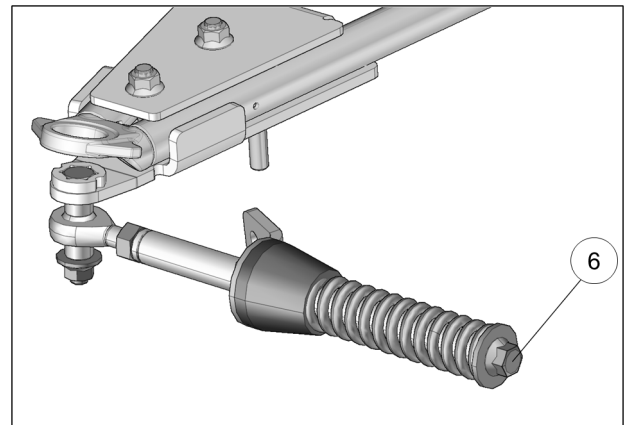

Fig. 22
10. Verify that spring assembly bolt (**6**) is tightened to the recommended torque specification: 75 N•m [55 lb•ft]. Refer to Fig. 22